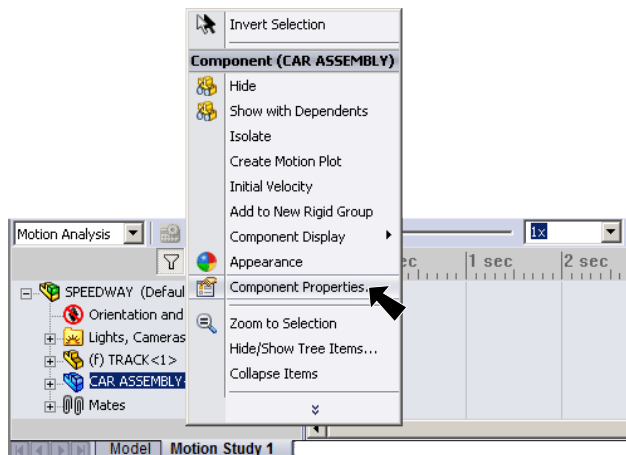

Fig. 3
- Step 1. **Right click** Car Assembly in the Motion Manager design tree and click **Component Properties**, Fig. 3.